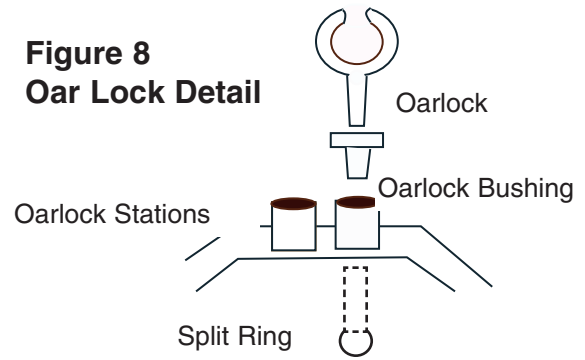

**Figure 6**
2. Attach each Pontoon to frame using (8) Cam Lock Straps. Slip each strap through D-Ring on Pontoon, around frame and pull tight through Cam Lock Buckle. **NOTE:** Be sure the straps are pulled tight through the Cam Lock Buckles (see figure 6).